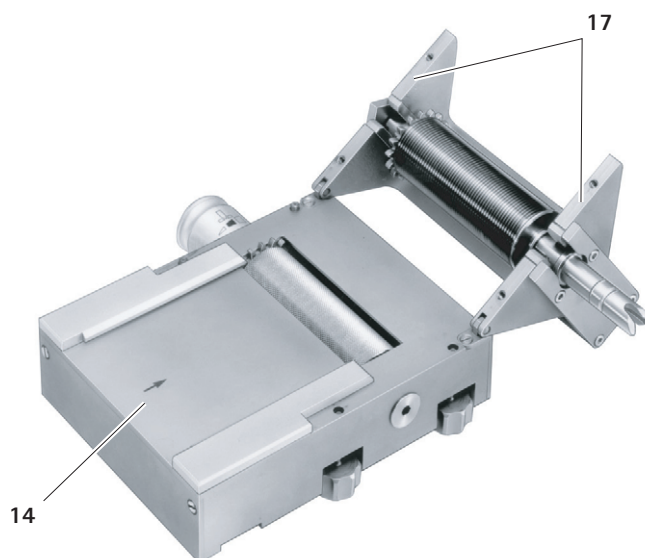

Fig. 2
- ▶ Open upper part 17, see Fig. 2.
- Hold cutting cylinder **2** at shaft **10** and press it into bearings **20** until it clicks into position, see Fig. 2.
- Close upper part **17** on lower part **14**, see Fig. 2.